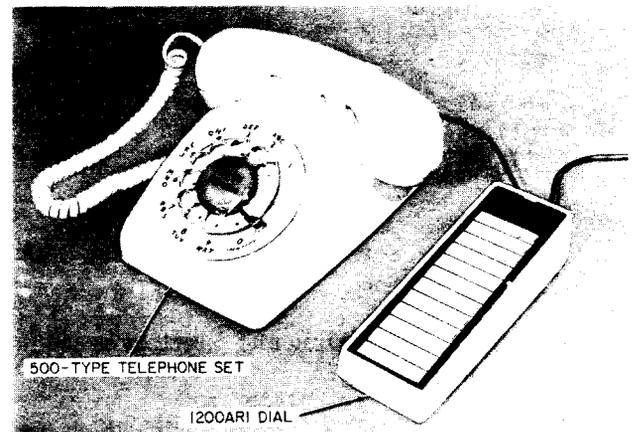

Fig. 1—1200AR1 Automatic Dialer and Associated Rotary Service Telephone Set
1.01 This section contains information on the TOUCH-A-MATIC 12 automatic dialer (Fig. 1 and 2), coded 1200AR1 and 1200AT1 dials. Information on the 1200AR1 dial was formerly found in Section 501-164-204.